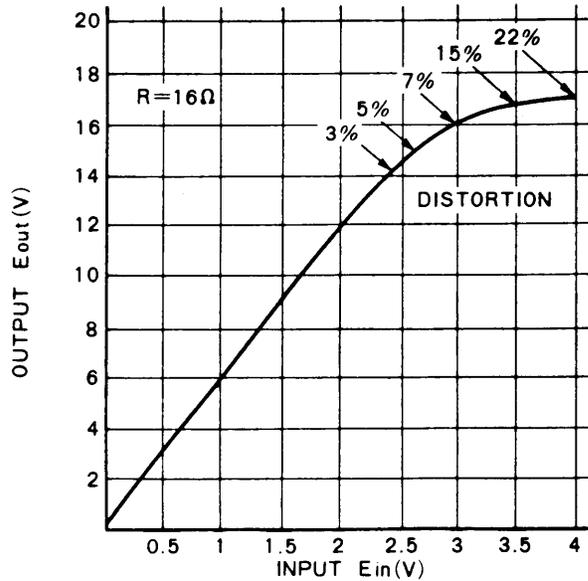

Fig. 4. Output characteristic.
- c. Plot the above output voltage readings on a system of rectangular coordinates marked on a graph paper with the axes of its ordinates and abscissas calibrated in volts for the output and input voltages respectively and connect the plotted points to obtain an input voltage vs. output characteristic curve. Fig. 4 shows an example of the characteristic curve thus obtained.
- e. In the example of the amplifier having the characteristic shown in Fig. 4, the maximum distortionless output may be calculated as:
- f. Note that the distortion factor of the amplifier with the characteristic curve shown in Fig. 4 cannot be known directly from this measurement, but may be roughly estimated from the degree of the curvature represented by the characteristic curve.